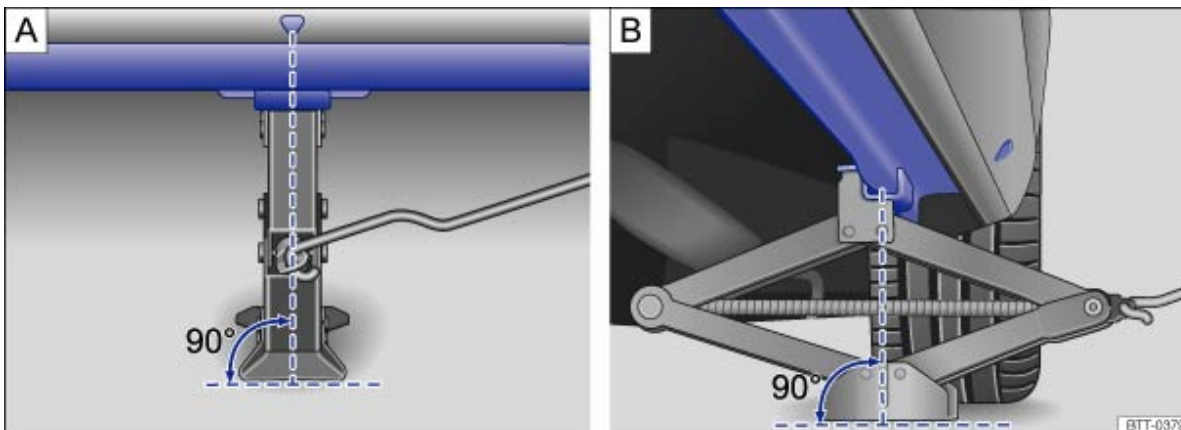

Fig. 235 Scissors jack at the rear on the left-side of the vehicle
The jack may be applied only at the jacking points shown - markings on the body → Fig. 235. Always use the jacking point closest to the wheel you are
- Fit the jack only at the points described. The jack claw must grip the vertical rib under the sill securely → Fig. 235.